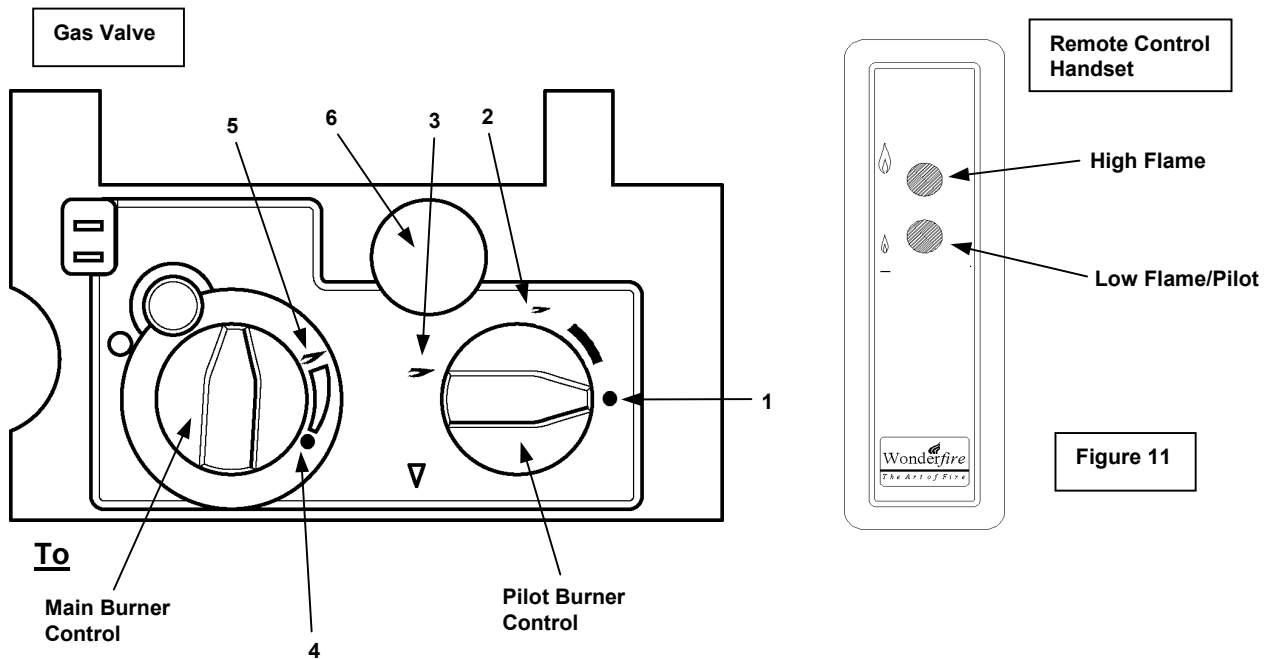

Figure 10
Once the pilot light is established, the main burner can be lit by turning the pilot burner control knob anti-clockwise to position 3 (refer to figure 10), and by then turning the main burner control knob to the 'high' position (5).
Turn the main burner control knob fully clockwise. Alternatively turn the pilot burner control knob clockwise to the ignition position (2). Refer to figure 10.
In order to disable the handset, but still leave the pilot alight, turn the pilot burner control knob to the ignition position 2. Refer to figure 10.
- Allow the appliance to warm up, (for at least fifteen minutes) in the fully aerated position, with the control lever pushed in to the locked position – see figure 14, also see figure 10 item No. 6 aeration control knob.